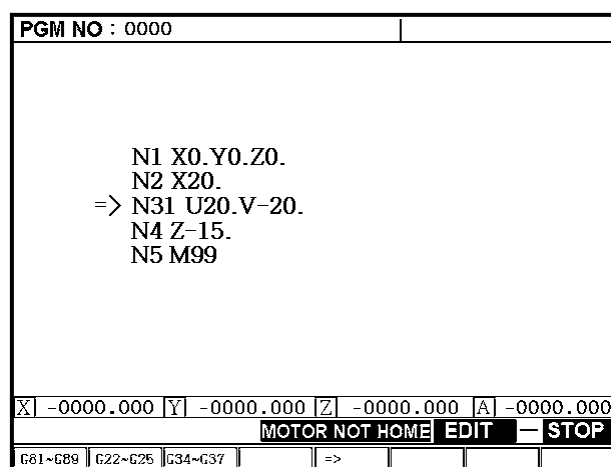

Fig 2-34
2. Use the  /  to move to the cursor to block N3.3. Press  . The screen shows as Fig. 2-34